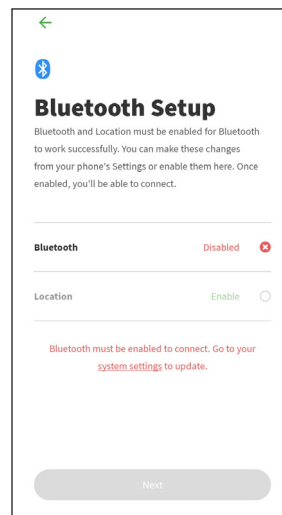

Figure 160 - Enable Bluetooth
- ⚠️ HELP:** If you experience difficulty enabling Bluetooth in app, go to your device settings to manually enable Bluetooth (Figure 160).